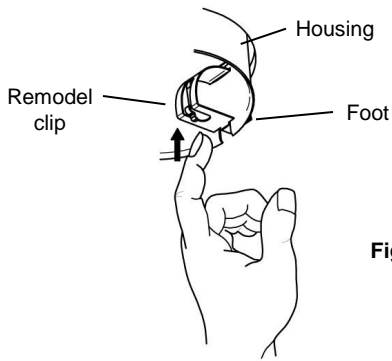

Fig. 5
- When the "foot" of each remodel clip touches the ceiling, push the remodel clip through the "I" shaped opening. (Fig. 5)